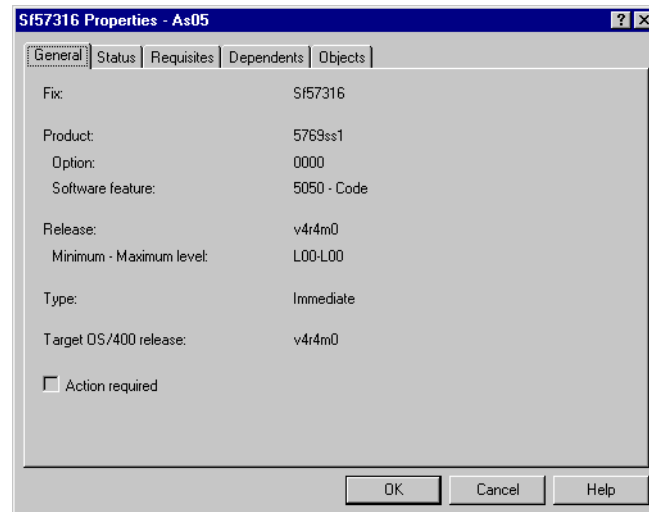

Figure 73. Properties of fixes
3. Right-click and select **Properties** on any item to view further details, such as the type of fixes and prerequisite fixes. See Figure 73.